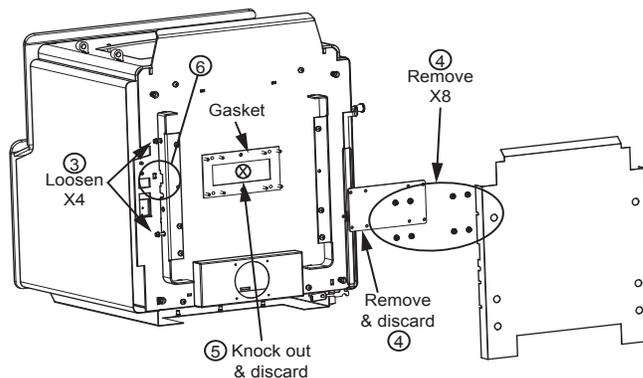

Figure 20.2
3. Lay appliance on its back on a protective pad or pallet (**Figure 20.2**).
4. Remove heat shield by loosening the four bolts using 3/8 open end wrench (**Figure 20.2**).
5. Remove 8 nuts that hold the cover plate on using a 7/16 socket wrench; discard cover plate (**Figure 20.2**).
6. Remove knock out from bottom of firebox by using a hammer (**Figure 20.2**).
3. Lay appliance on its back on a protective pad or pallet (Figure 20.2 on page 20).
4. Remove heat shield by loosening the four bolts using 3/8 open end wrench (Figure 20.2 on page 20).
5. Remove 8 nuts that hold the cover plate on using a 7/16 socket wrench; discard cover plate (Figure 20.2 on page 20).
6. Remove knock out from bottom of firebox by using a hammer (**Figure 20.2 on page 20**).